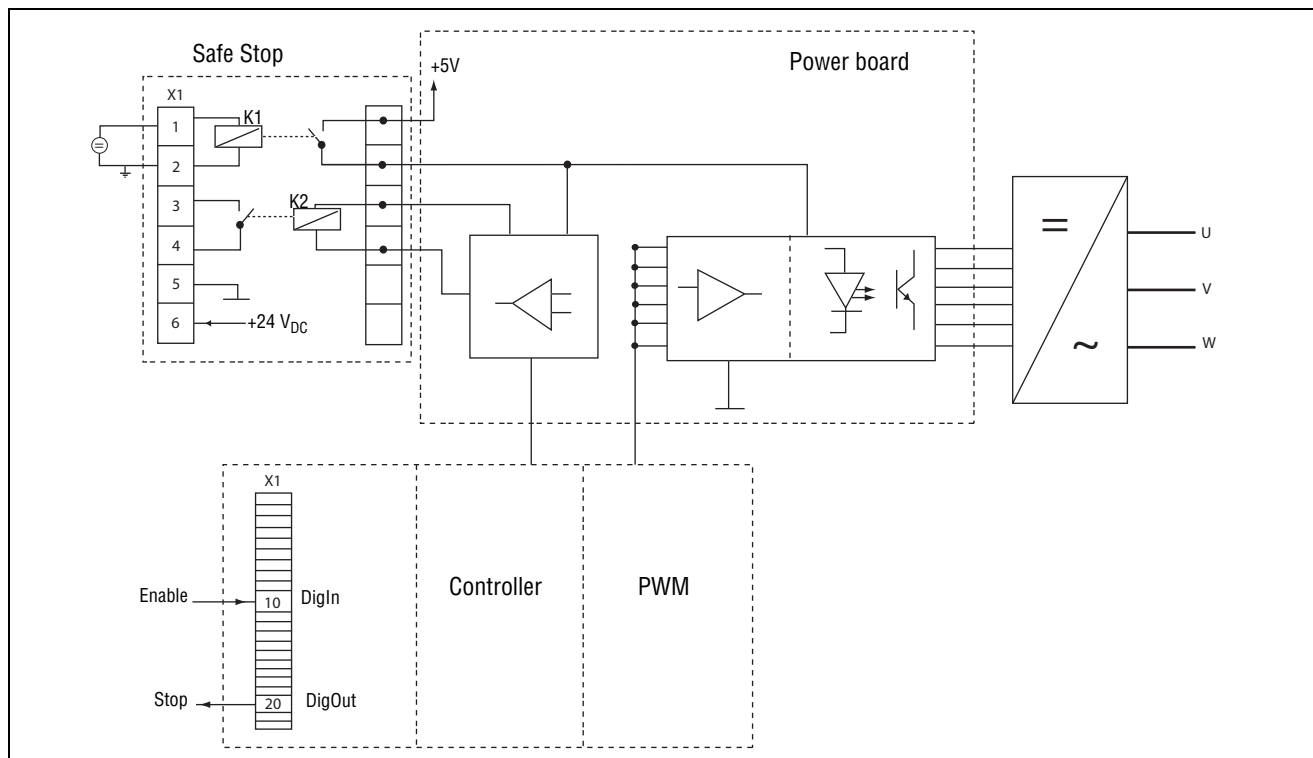

Fig. 117
- "Inhibit" input, terminals 1 (DC+) and 2 (DC-) on the Safe Stop option board should be made active by connecting $24 V_{DC}$ to secure the supply voltage for the driver circuits of the power conductors via safety relay K1. See also Fig. 117.
- High signal on the digital input, e.g. terminal 10 in Fig. 117, which is set to "Enable". For setting the digital input please refer to section 11-5-2, page 198.
To monitor the "Enable" function, the selection "RUN" on a digital output can be used. For setting a digital output, e.g. terminal 20 in the example Fig. 117, please refer to section 11-5-4, page 207 [540].